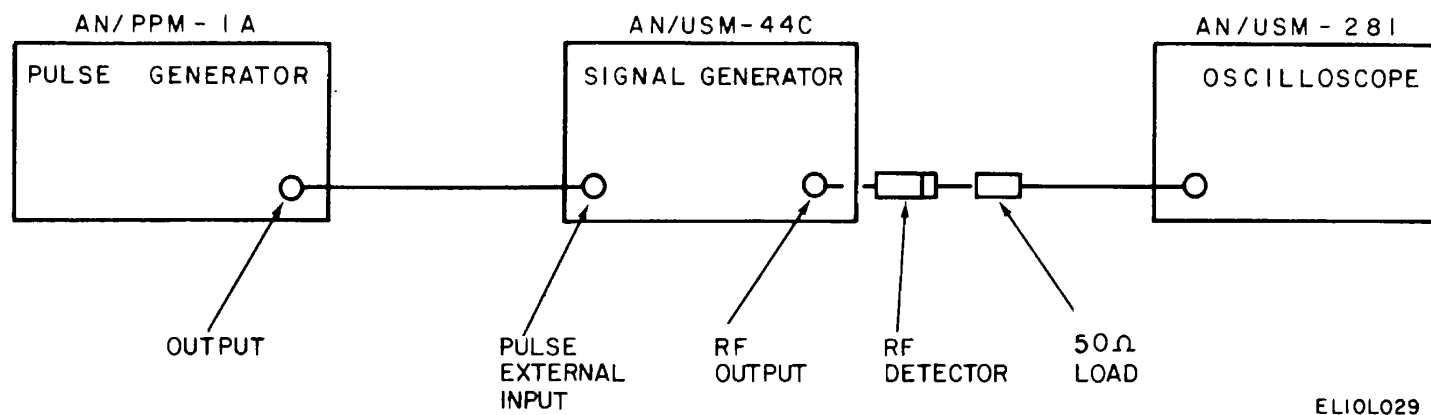

Figure 7-22. Modulation adjustment test setup.
(1) Connect equipment as shown in figure 7-22.
(2) Set AN/USM-44C for 30 MHz, +7 dbm output with 50 percent 400 Hz am. modulation.
(3) Do not connect 50-ohm load to detector.
(4) Set oscilloscope display for sinewave centered in screen.
(5) Connect TS-723/U to scope vertical output.
(6) Adjust R2, R3 and R1 on A7 for minimum distortion (1 percent or less).
(7) Connect AN/USM-207A to oscilloscope vertical output.
(8) Adjust R4 on A7 for 400 Hz modulation frequency as indicated on AN/USM-207.
(9) Set MODE switch to 1 kHz am.
(10) Adjust R5 for 1 kHz modulation as indicated on AN/USM-207.
(1) Connect 50-ohm load to detector output (fig. 7-22).
(2) Connect AN/PPM-1 to PULSE EXTERNAL INPUTS jack.
(3) Set AN/PPM-1 for +30 volts, 10usecpulseat 1000pps.
(4) Set sweep on oscilloscope for 2 usec/division.
(5) Set SET LEVEL control fully counterclockwise.
(6) Adjust R25 on A7 for minimum transient feedthrough.